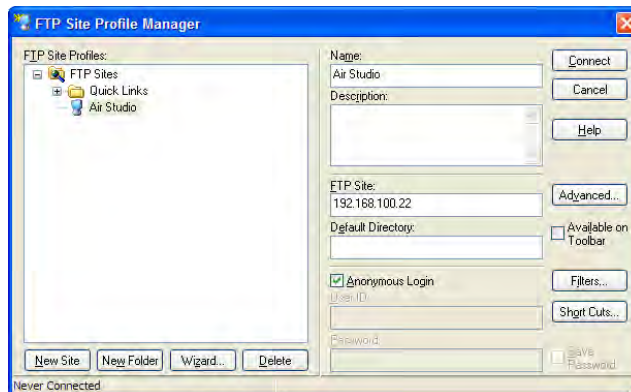

Figure 4-30. FTP Voyager – FTP Site Profile Manager Window
1. Start FTP Voyager. The **FTP Site Profile Manager** window appears (Figure 4-30).
- b. At **Name**, type the console's name (such as **Air Studio** in Figure 4-30).